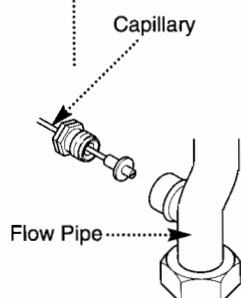

Fig. 64
1. Undo the nut retaining the capillary in the connection at the flow pipe (Fig. 64).